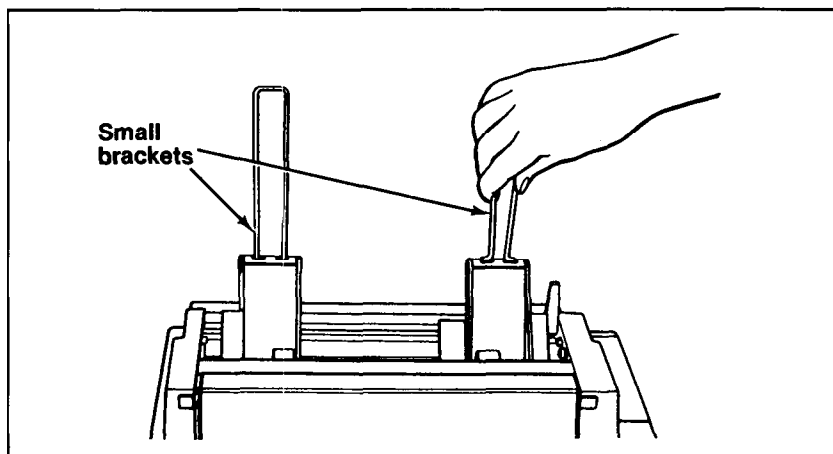

Figure 2-3. Installing the small brackets
10. With the cut sheet feeder in place, you can now install the three brackets supplied with the unit. To install the two small brackets, squeeze them together and insert them into the holes on top of the paper supports, as shown in Figure 2-3.